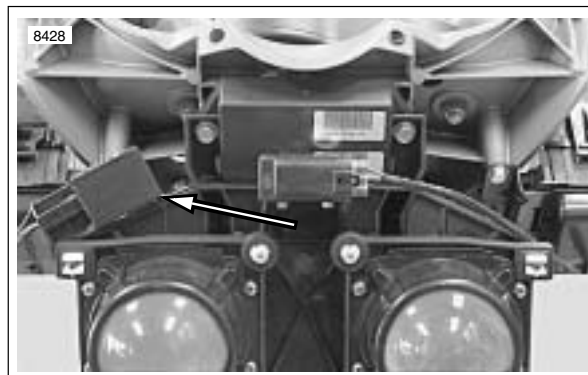

Figure 7-55. Turn Signal Flasher
1. See Figure 7-55. Attach 5-place connector [30] to flasher.